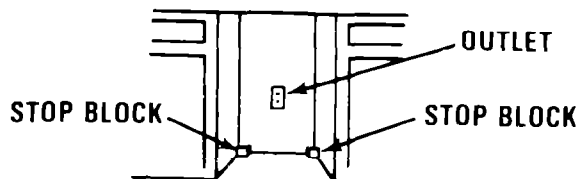

FIGURE 12
4. To prevent the power supply cord from being pinched, or the power supply cord plug from being crushed, install a stop block at the lower rear corners of the recessed opening. The blocks should be at least 3/4" (1.27 cm) deep by 2" (5.1 cm) wide, by 2" (5.1 cm) high. See Figure 12 for details.